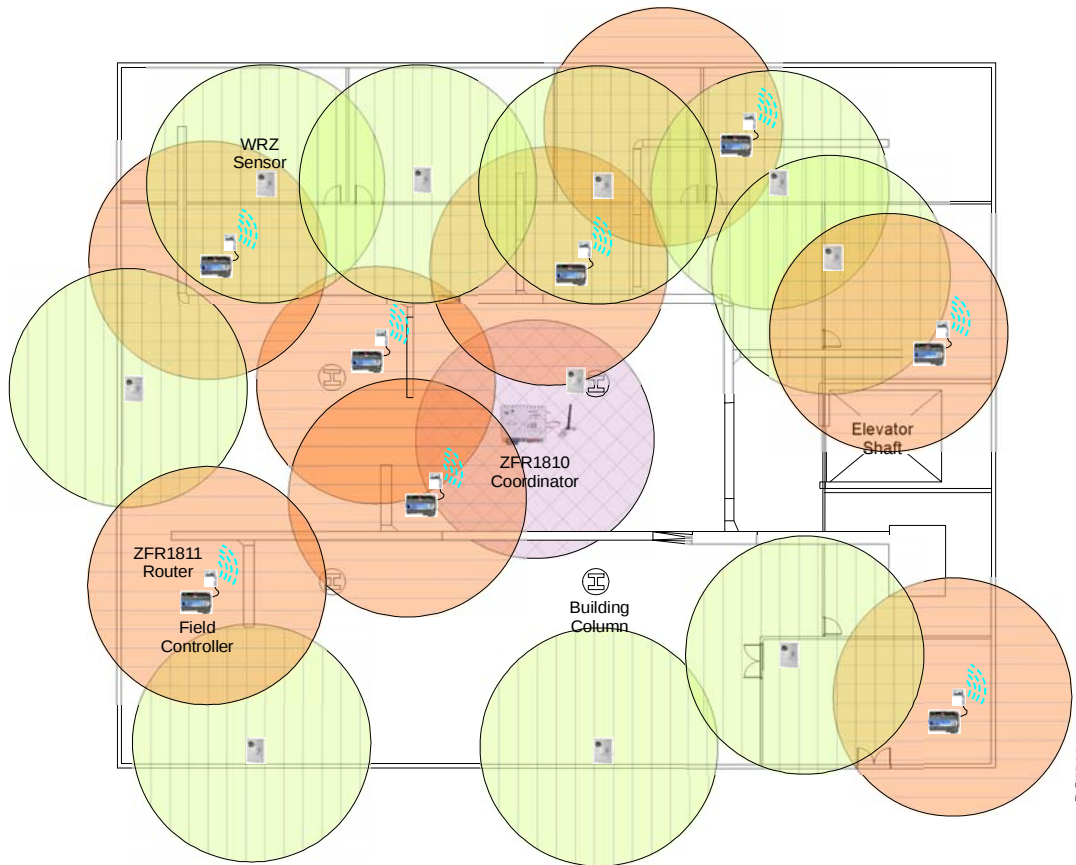

Figure 5: Building Floor Plan with ZFR1800 System and with Circles Representing Wireless Signal Range
5. On your floor plans, draw a 15 m (50 ft) diameter (7.5 m [25 ft] radius) circle around each ZFR1800 Coordinator (purple circle), ZFR1811 Router (orange circle), and WRZ Sensor (green circle), to help determine wireless signal range. See Figure 5.